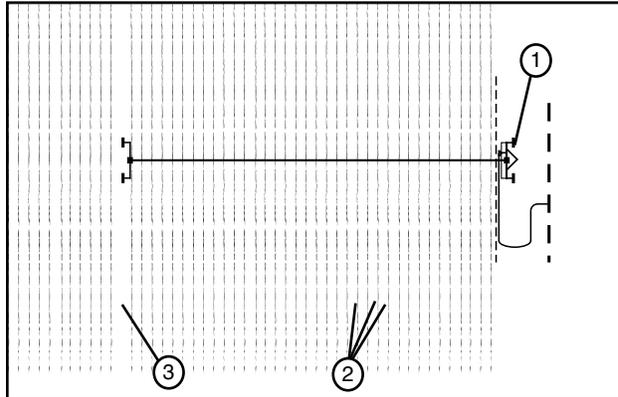

Figure 36-1 Parallel Travel
2. Plant the crop parallel to the wheel tracks allowing a minimum of 10 in (254 mm) of clearance space between each wheel track and the first crop row on either side of the wheel track. See Figures 36-1 and 36-2.
1. Plant the crop parallel to where the irrigation machine will run. See Figure 36-1.